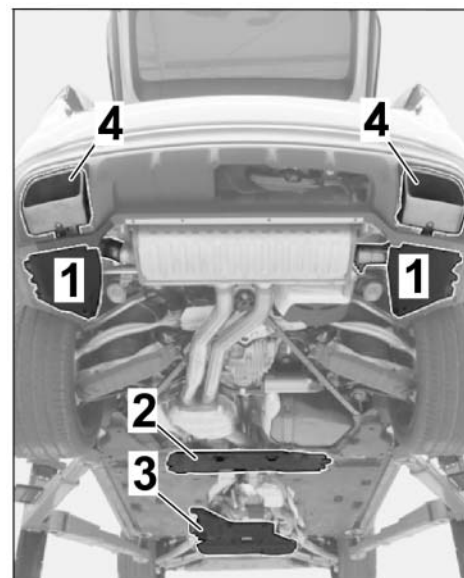

Figure 9
1.8.1 Remove rear underbody cover and rear tunnel cover (⇒ *Figure 9 -1 and 2-*) ⇒ *Workshop Manual '519419 Removing and installing cover for rear underbody'*
1.8.2 Remove the tailpipe (left/right) (⇒ *Figure 9 -4-*, ⇒ *Workshop Manual '263419 Removing and installing the tailpipe'*).